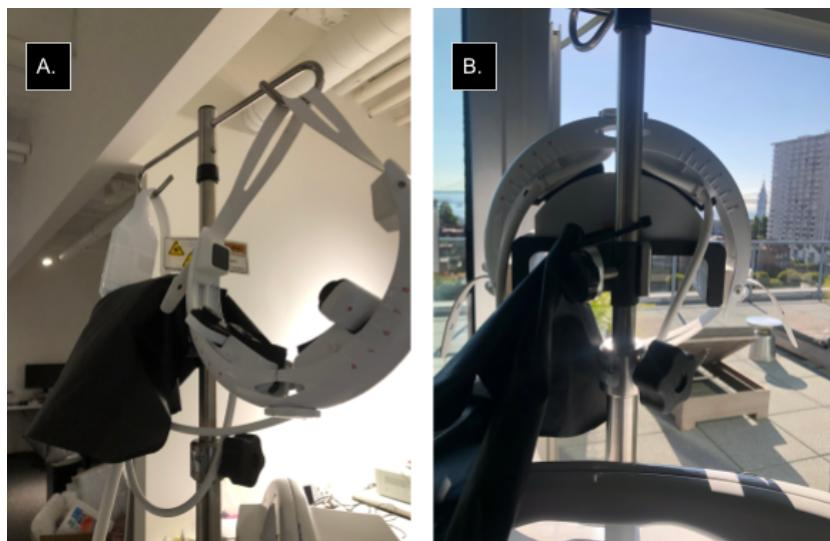

Figure 10: The correct way to store the headset on (A) the IV pole or (B) the phantom.
- The headset can either be stored by hanging it from the strap or placing it on the calibration phantom as shown in Figure 10 below.